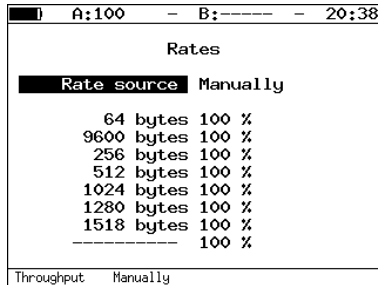

Figure 5.16. Rates menu
- **Rates** — switched to *Rates* menu (see fig. 5.16).